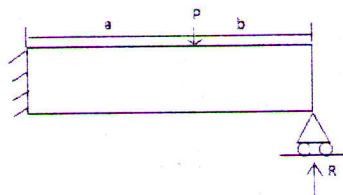

Fig.2
- 9 a) Explain the principle of virtual work? (3)
- b) State and prove Castigliano's first theorem. (7)
- 10 a) Write the general expression for twisting moment for shafts of non-circular cross section incorporating warping function $\Psi(x,y)$. (3)
- b) What is meant by warping of non-circular shafts? Prove that St.Venants warping function is harmonic? (7)
- 11 a) Explain the minimum potential energy theorem? (2)
- b) Find the support reaction R in Fig.2 at the end of the cantilever beam using strain energy method. (Load acting is P at a distance of ' b ' from the roller support). (8)